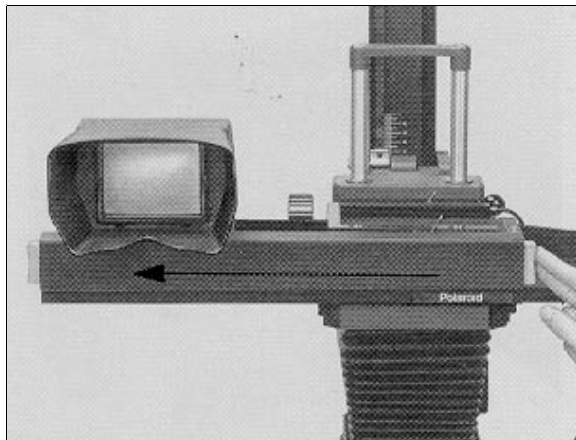

Figure 3-12. Slide Head to Left
7. Slide the camera head into the picture-taking position. Press the button, and while holding it in, slide the head all the way to the left (figure 3-12) to place the film holder above the lens.